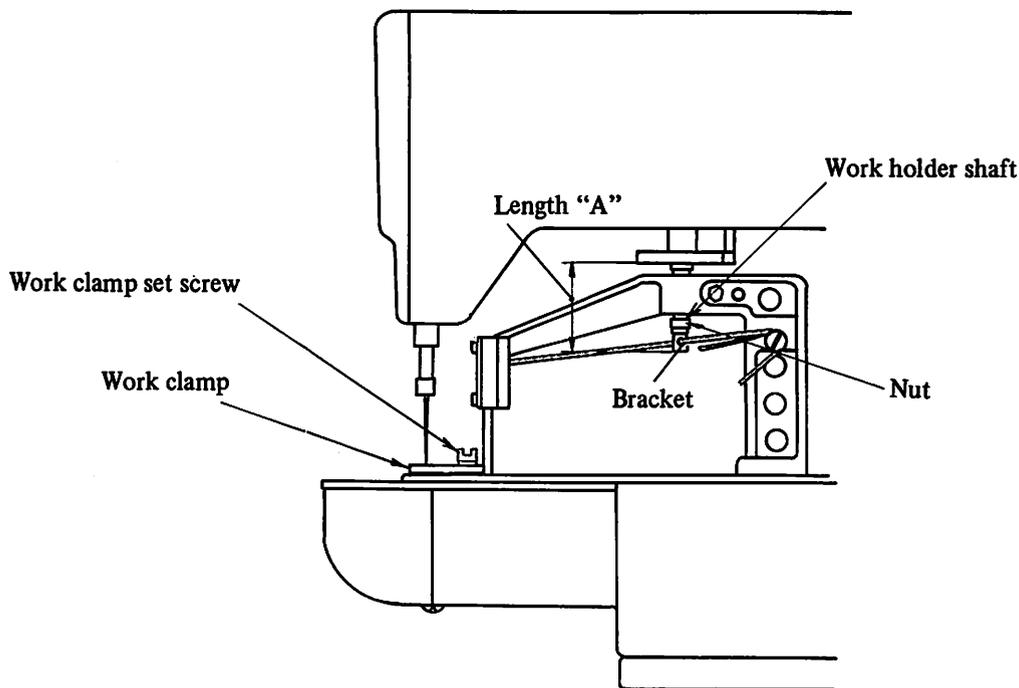

Fig. 8
4.5.1 To increase pressure of the work holder, loosen the nut shown in Fig. 8 and turn counter-clockwise the work holder shaft by the spanner.
To replace the work clamp, remove the work clamp set screw shown in Fig. 8 and remove the work clamp.